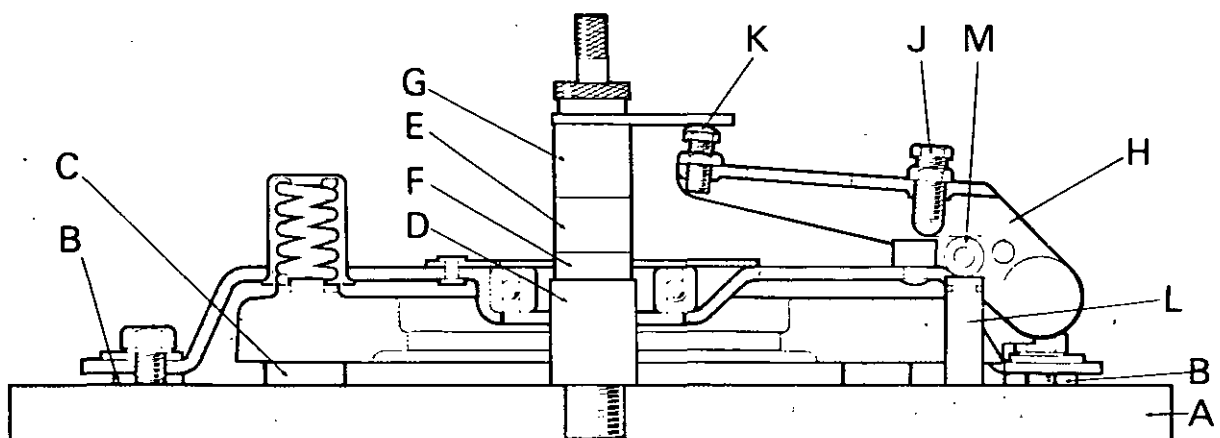

Figure 31. SETTING RELEASE LEVER HEIGHT — LAYCOCK
As the clutch pedal is depressed the release levers (Fig. 31) pivot first about the fulcrum rollers and then, when the adjusting screw contacts the cover thrust button, on the outer cover. When release lever is pivoting on fulcrum roller the pressure plate is drawn rearwards to release the transmission plate but the pressure of the thrust springs is transferred to the three plungers, which are pressed against the separator plate and therefore hold the power take-off driven plate firmly in engagement. Pressing the release levers so far that they pivot on the cover thrust button withdraws pressure plate and also releases the three plungers, so that the three springs in flywheel push the separator plate away from flywheel and release the power take-off plate. Both clutches are therefore disengaged when pedal is fully depressed but only the transmission clutch is disengaged if pedal is not depressed past the point where the adjusting screw contacts cover thrust button.
8. Set release levers with adjuster screws K, Figure 31, to finger height. The height of adjuster screws must be alike. Operate clutch again with actuator lever and recheck height. The release levers should be held down firmly by hand so that roller is in contact with plunger.